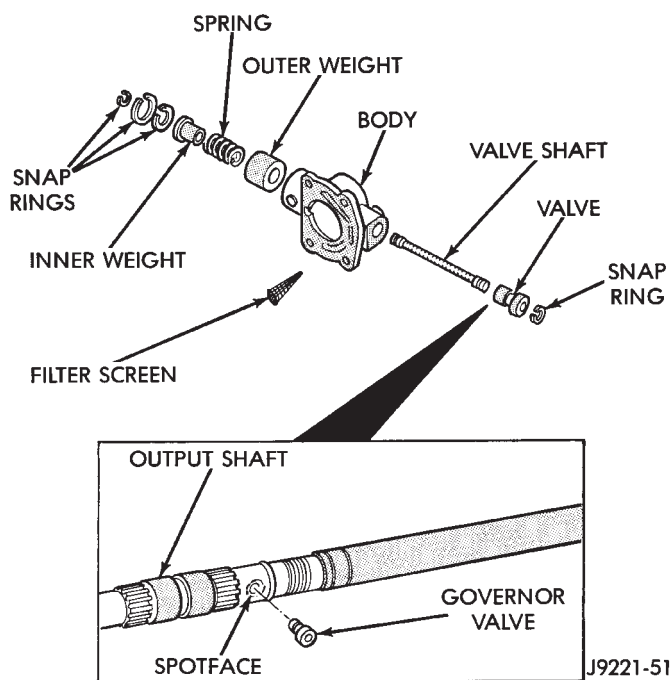

Fig. 13 Governor Components
- (1) Remove governor weights and spring from body (Fig. 13).
- (2) Remove snap ring and separate inner weight and outer weight and spring (Fig 13).
- (3) Remove bolts attaching governor to park gear (Fig. 13).
- (4) Remove park gear from governor body.
- (5) Remove filter screen from park gear or governor body (Fig. 13).